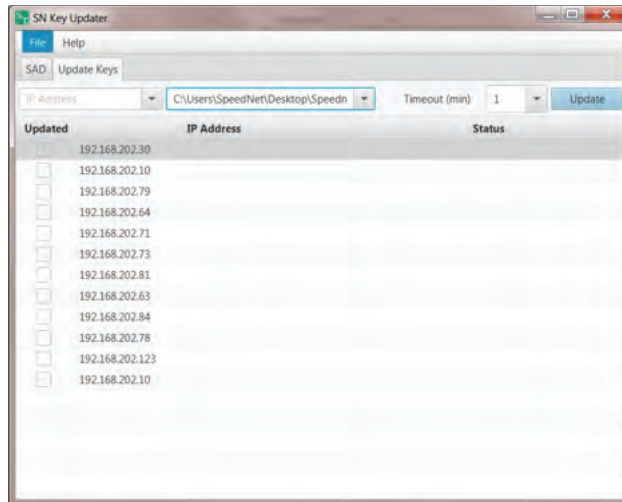

Figure 56. Key Updater IP address listing and Output folder selection window.
STEP 37. Choose an output folder. See Figure 56.